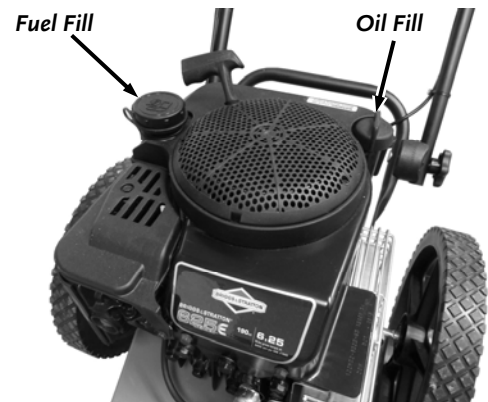

Figure 10
Note: Subaru Fuel and Oil fills are on opposite sides from what is shown in figure 10.
1. Check the oil level every time you use the DR TRIMMER/MOWER (**Figure 10**).